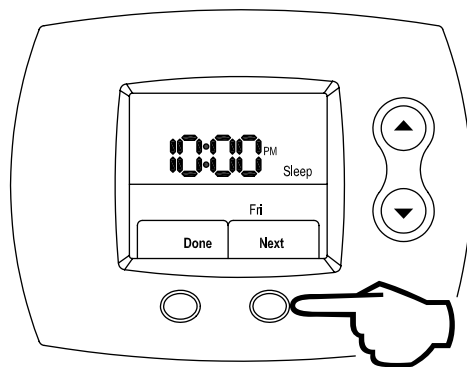

Figure 140
Step 23: Press the **RIGHT** (Next) button to lock in the Sleep period start time, which is shown in Figure 140.